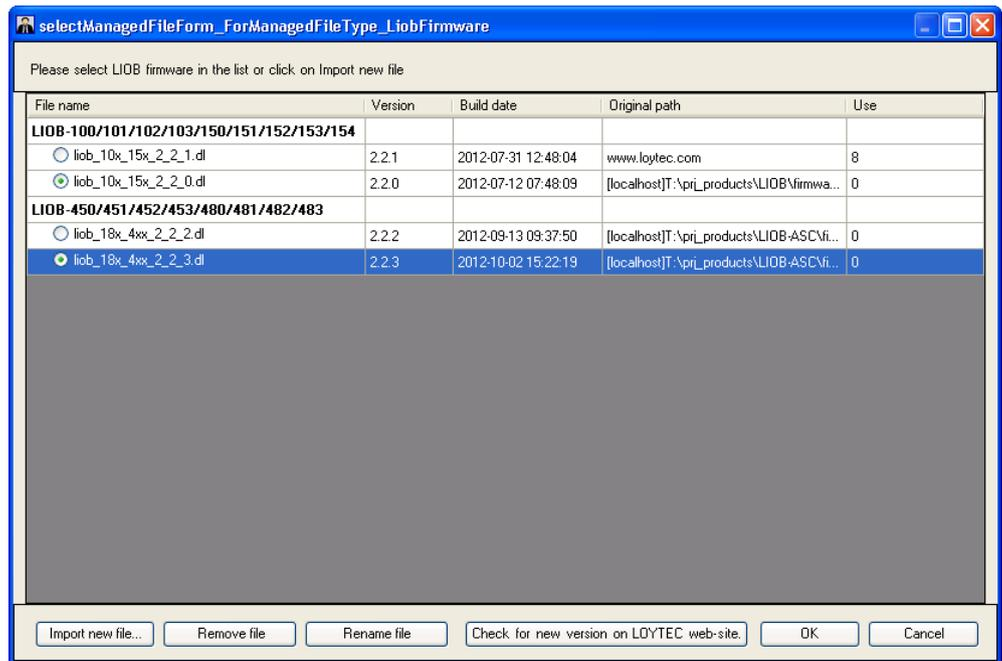

Figure 192: Select Firmware for L-IOB Devices Dialog
4. The **Select Firmware** dialog opens as shown in Figure 192. The dialog displays a list of available L-IOB firmware files. The list is split into separate sections for L-IOB devices which require different firmware files. If the desired L-IOB firmware version is already available in the list, select it and press **OK**. You can either import a new L-IOB firmware file from the hard disk or check if a new firmware is available on the LOYTEC web site: